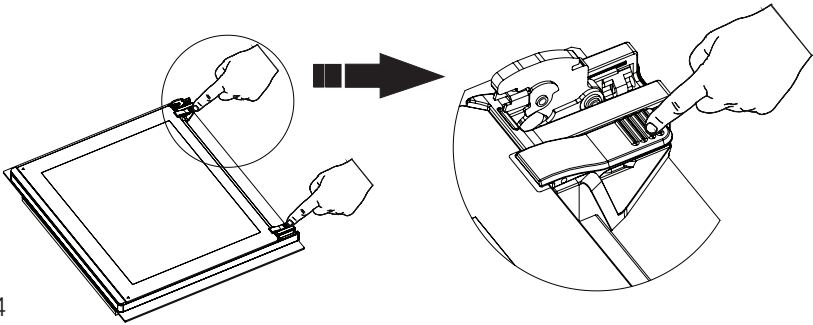
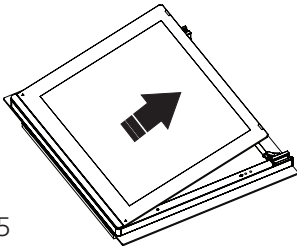
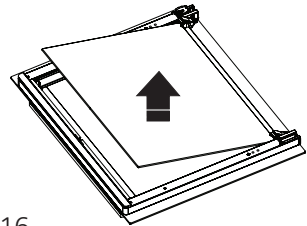

Figure 14
Figure 15
Figure 16
**2.** Press the plastic clips on the left and right side as shown in figure 14. After pressing the clips as shown in figure 15, the glass will be released. Carefully pull the glass that has become free toward you. Carefully remove the middle glass by lifting it upwards, as shown in figure 16. The outer glass is fixed to the oven door profile. You may easily clean the glass after it has been separated. Once the cleaning and maintenance is complete, you may replace the glasses by performing the removal procedure in reverse. Make sure that the glass is positioned in the correct direction and properly seated in place.